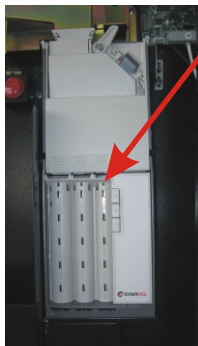

Figure 32
5. Load coins one at a time into the Coin-co coin changer located in the electronic control unit. IMPORTANT: load coins through the coin slot on the front panel, or directly from the TOP of the Coin-co coin changer (Figure 32).
Do **not** load coins through the quarter, nickel, or dime slots in the middle of the Coin-co coin changer (*Figure 32*).
Never input coins from the 3 side slots of the coin changer (*Figure 32*).